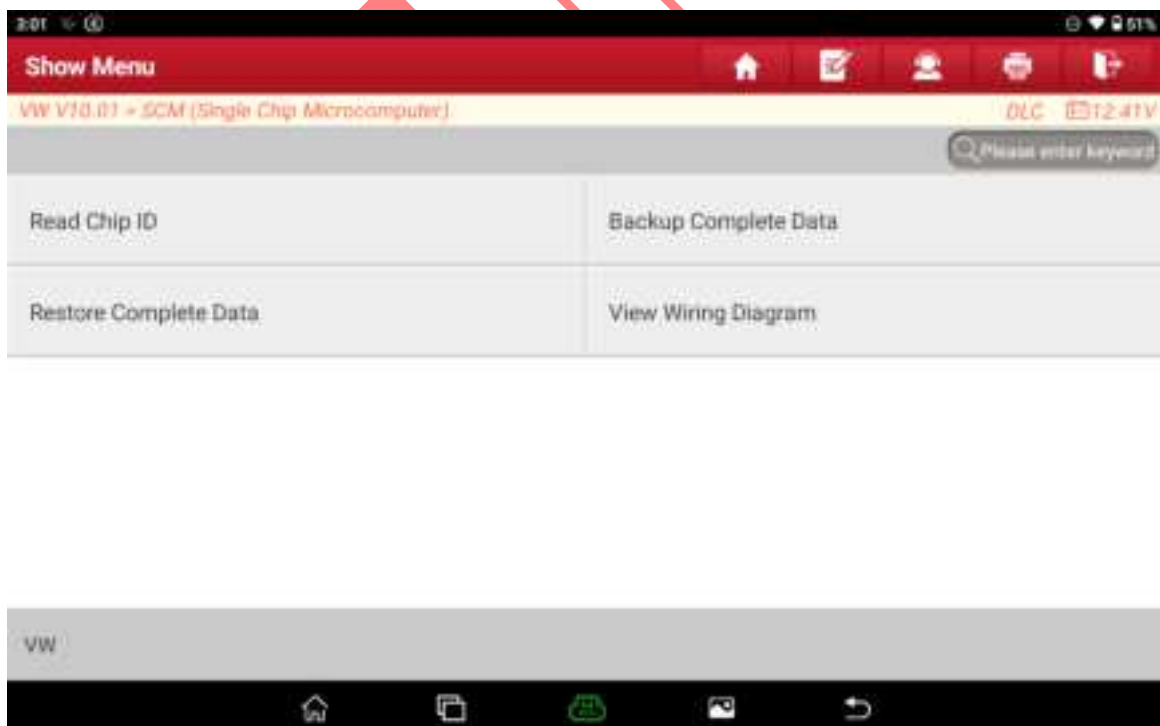

Figure 14
13. Choose [Back Up Complete Data], as shown in Figure 14.